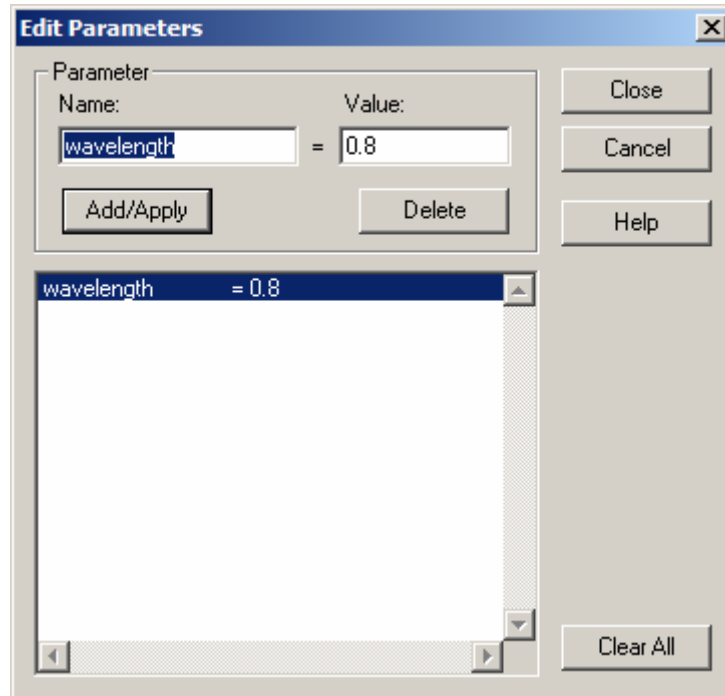

Figure 15 Edit Parameters dialog box
- 1 In the **3D Mode Solver** Window, click **Edit Parameters** under **Simulation** menu. **Edit Parameter** dialog box appears (see figure 15).